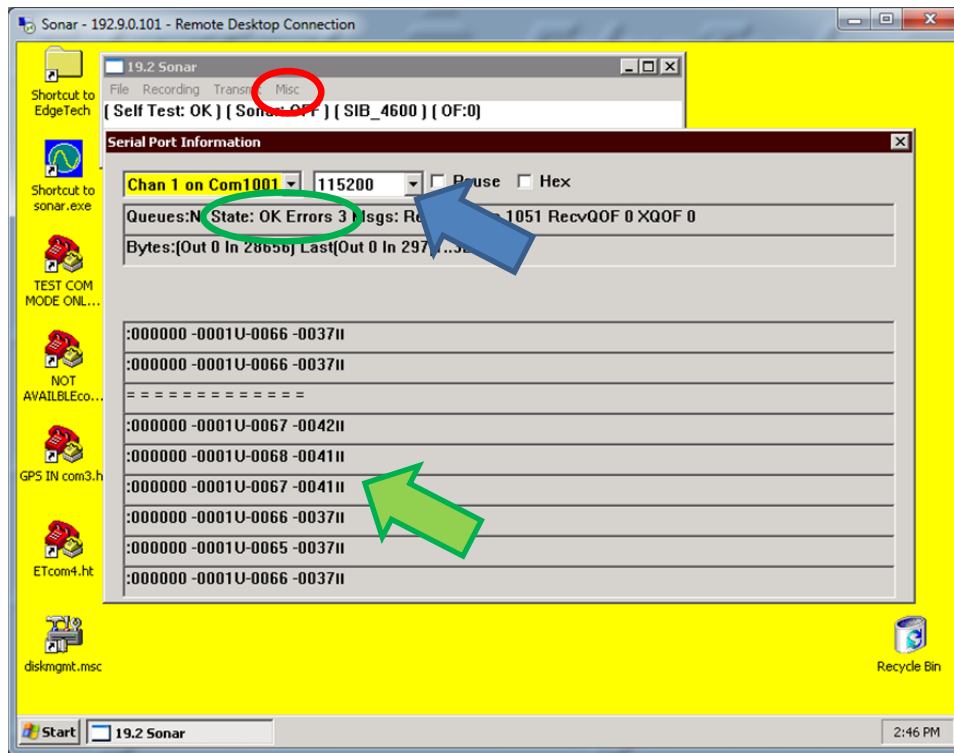

Fig. 7 - Checking Serial Port Information
9. Click on the **Misc.** at the top of the Sonar screen (as shown in Fig. 7), then **Serial Port Information...**
10. Check COM1 and set the correct baud rate for that device by using the drop down menu shown in blue (Fig. 7). When the correct baud rate is set, the **State** should say **OK** and **Errors** should not be increasing (as circled in green, Fig. 7). The correct data string should also be scrolling in the lower part of the window (green arrow, Fig. 7).
5. Click on the **Misc.** at the top of the Sonar screen (as shown in Fig. 7, pg A6), then **Serial Port Information...**
6. Check COM1 and set the correct baud rate for that device by using the drop down menu shown in blue (Fig. 7, pg A6). When the correct baud rate is set, the **State** should say **OK** and **Errors** should not be increasing (as circled in green, Fig. 7, A6). The correct data string should also be scrolling in the lower part of the window (green arrow, Fig. 7, A6).